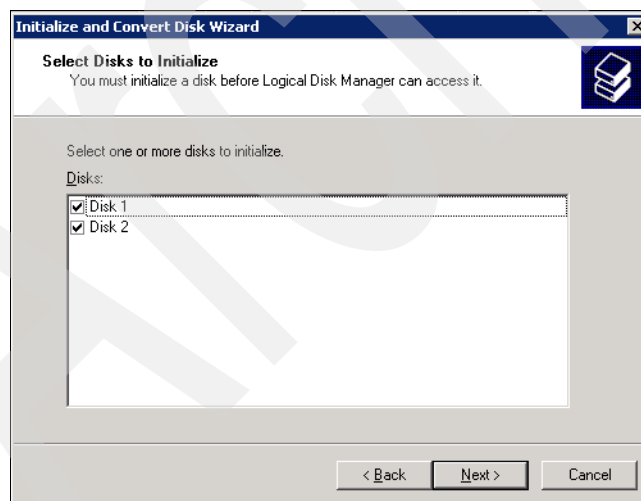

Figure 25-14 Select disks to initialize
2. Click **Next** and you are prompted for which disks to initialize (Figure 25-14). By default, all newly discovered disks are displayed. Mark all disks you want to initialize and click **Next**.